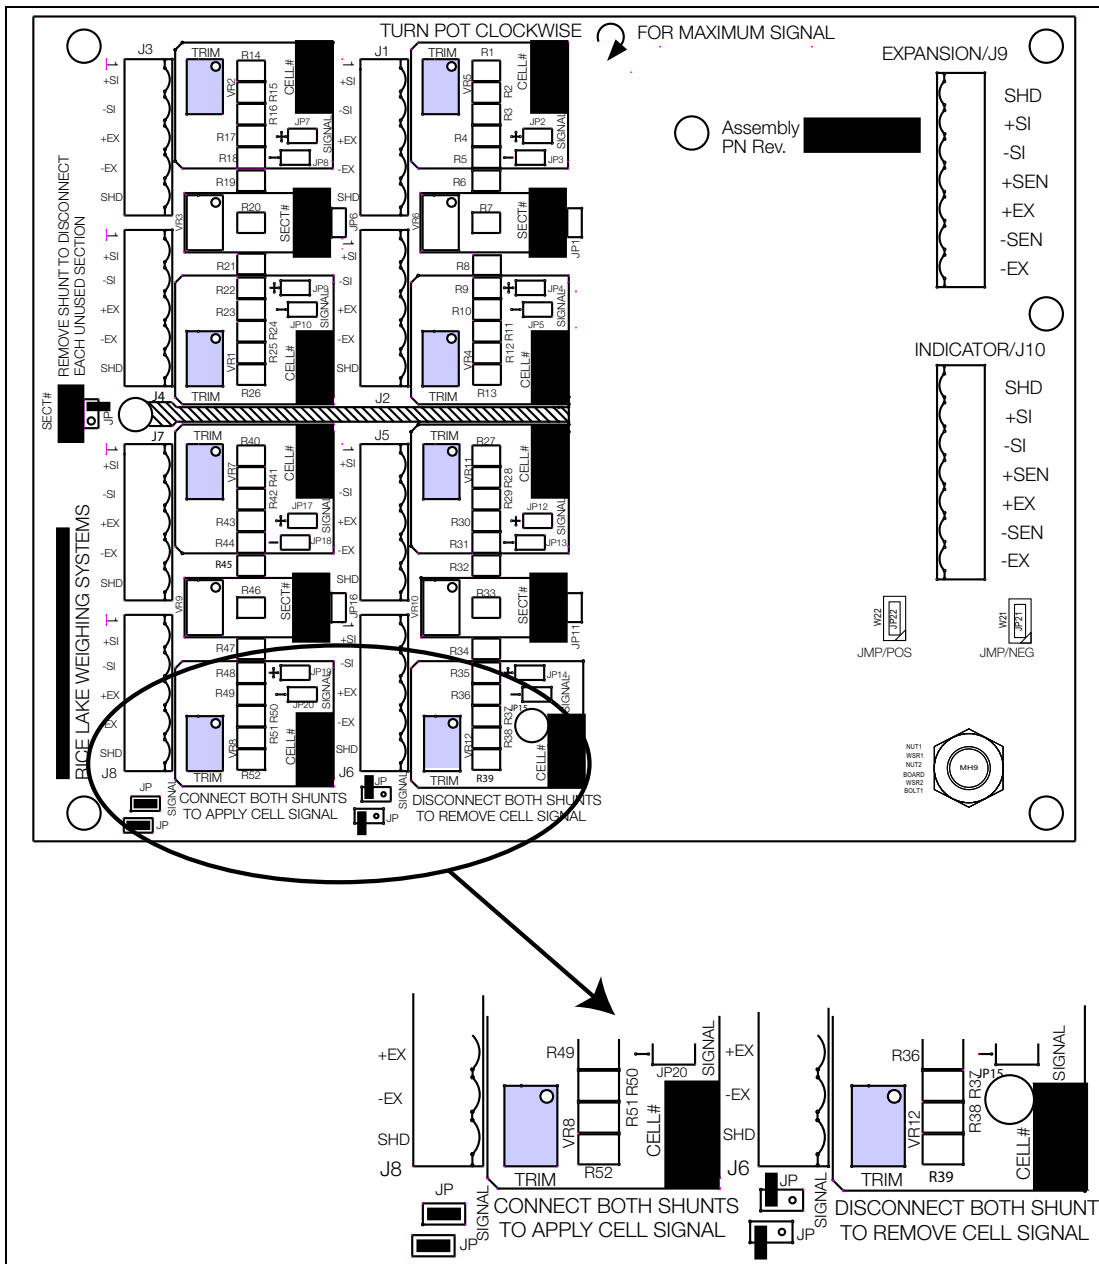

Figure 4-1. Shunt Locations
The JB8SP is a signal trimming device with individual and section trimming potentiometers (see Figure 4-1 on page 7).
**Note** *If using two junction boxes with an expansion cable between them, make sure to cut the sense trace on the board that has the homerun cable connected to it (see Figure 4-1 on page 7). This ensures sensing out to the furthest junction box within the system. A six conductor cable must be used between the two junction boxes to ensure proper functioning of sense.*